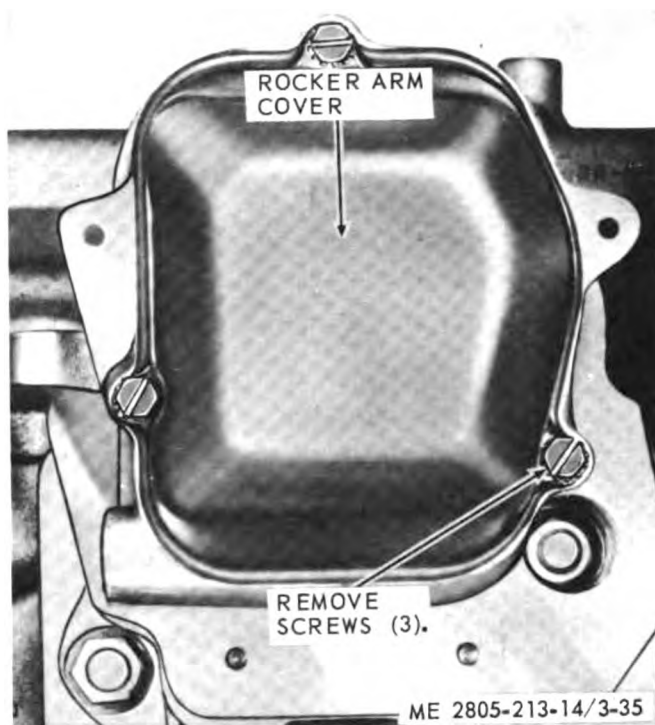

Figure 3-35. Rocker arm covers, removal and installation.
a. Removal. Refer to figure 3-35 and remove the rocker arm covers.
(1) Clean the rocker arm covers with an
(2) Carefully wipe the gaskets clean with a soft dry cloth.
(3) Inspect the rocker arm covers for dents, cracks, breaks, and other damage.
(4) Inspect the gaskets for excessive compression and for breaks.
(5) Replace defective parts.
c. Installation. Refer to figure 3-35 and install the rocker arm covers.